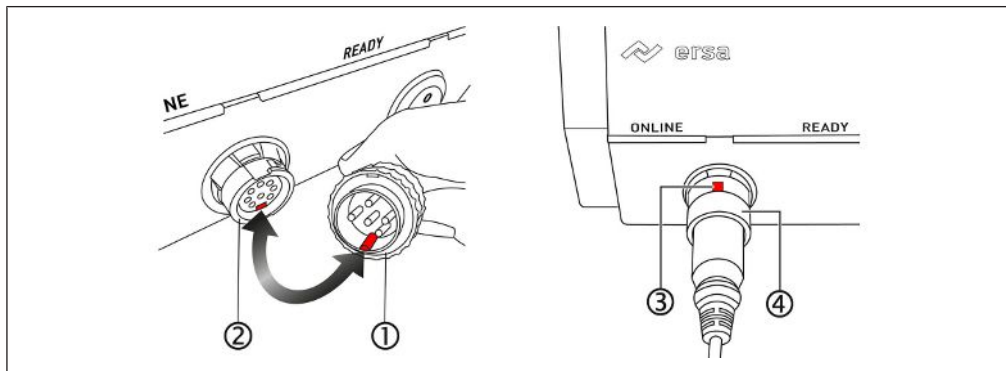

Fig. 8: Plugging in the soldering iron
- e) Fig. 8 left: Insert the plug of the soldering iron [1] into the soldering iron socket at the soldering station [2]. When doing so, align the plug anti-rotation device with the lower recess in the socket, see arrow.
- f) Fig. 8 right: Align the recess of the union nut on the soldering iron plug [3] upwards. Then press the union nut [4] onto the plug and lock it by turning it 90 degree clockwise.